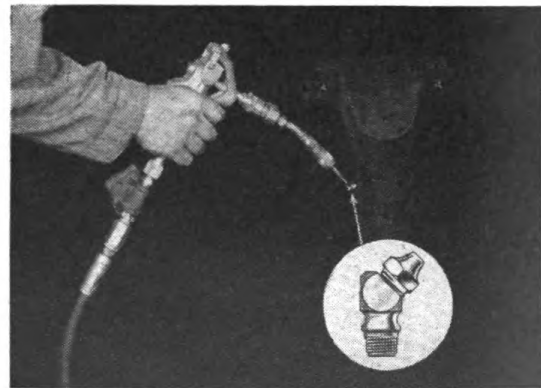

Figure 22
(3) *To Service Push Type Fittings (See Figure 22).*